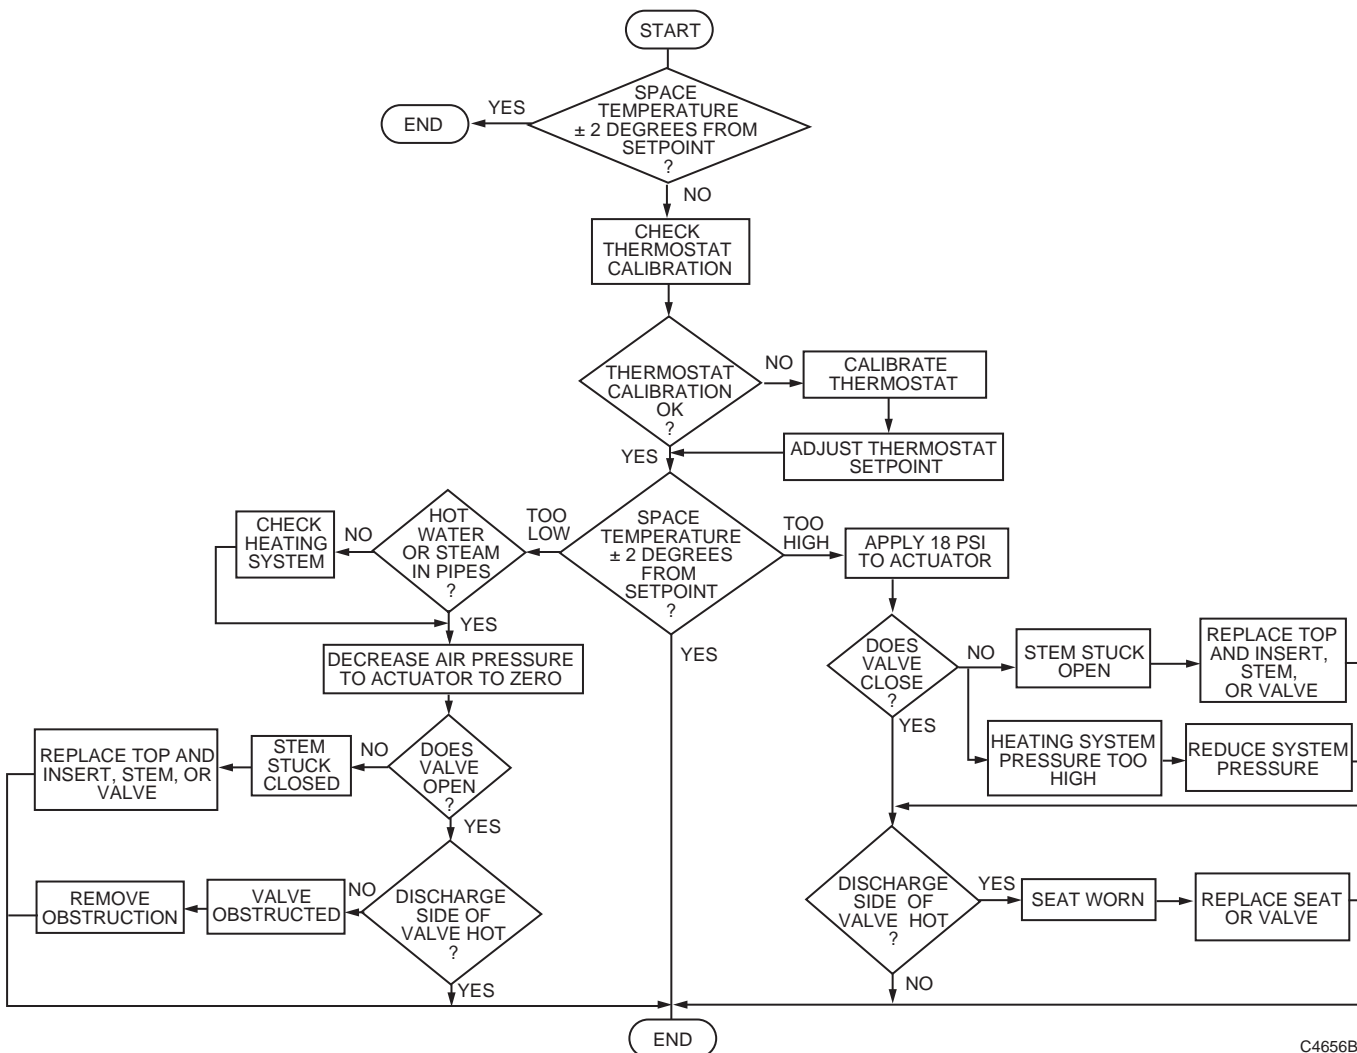

Fig. 4. VP525A,C troubleshooting flowchart.
- b. Check the Troubleshooting Flowchart (Fig. 4) to determine that branchline pressure is sufficient for tight close-off and system pressure is not excessive.
- (1) If air pressure is maintained and heating medium still flows through the valve, the problem is either a stuck valve stem, or defective seat/molded plug.
- (2) Disassemble the valve to replace these parts (See Stem and Disc Holder Assembly and/or Valve Seat Replacement section).